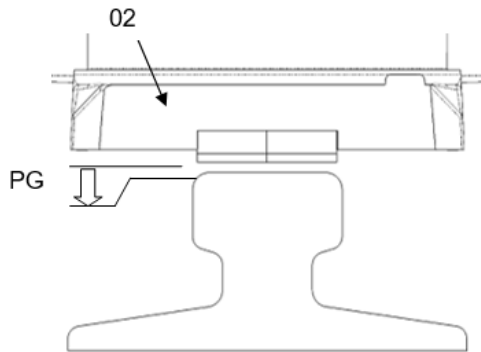
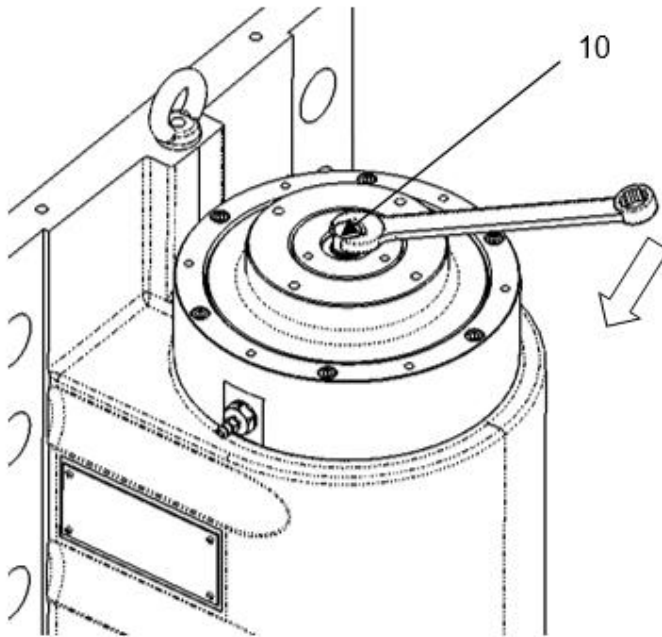
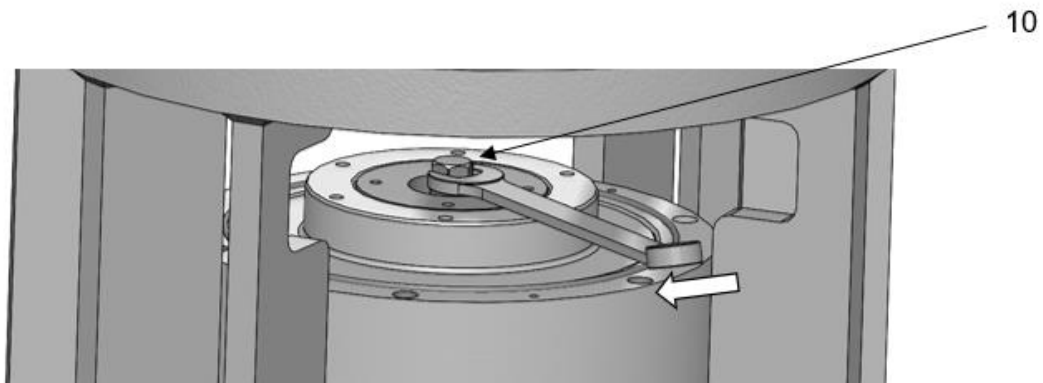

Fig. 2.4
Fig. 2.8
Fig. 2.11
3. Turn the wear adjustment screw **10** see Fig. 2.8 with a 15 A/F wrench clockwise until the pads are slightly tightened on the rail and then loosen by 2 and a half turns to obtain the nominal pad clearance "PG" see Fig. 2.4.
- Turn the wear adjustment screw **10** see Fig. 2.11 with a 22 A/F wrench clockwise until the pad abuts the pad on the rail and then loosen by **3** and a half turns to obtain the nominal pad rail clearance "PG" see Fig. 2.4.